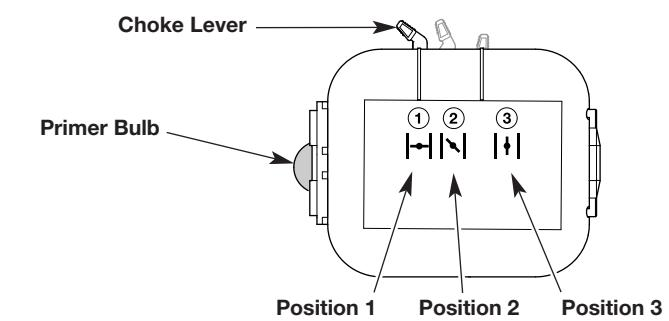

Fig. 6
3. Slowly press and release the primer bulb **10 times** (Fig. 6). If fuel cannot be seen in the primer bulb, press and release the primer bulb until fuel is visible.
4. Move the choke lever to **Position 1** (Fig. 6).
8. **DO NOT** squeeze the throttle control. Move the choke lever to **Position 2** (Fig. 6).
11. Continue to squeeze the throttle control or keep the cruise control in the FAST position (Fig. 5). Move the choke lever to **Position 3** (Fig. 6) and continue warming the engine for an additional 60 seconds. The unit may be used during this time.
**IF...** the engine hesitates, return the choke lever to **Position 2** (Fig. 6) and continue the warm-up.